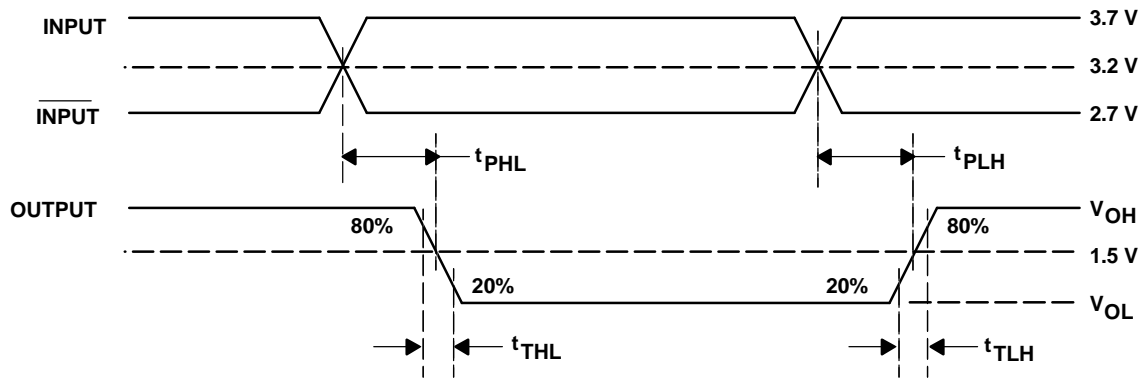

Figure 4. Receiver Propagation Delay Times
| $t_{PLH}$             | Propagation delay time, low-to-high-level output            | $C_L = 0 \text{ pF}^{(1)}$ , See Figure 4 and Figure 8  |     | 2.5 | 4   | ns   |
| $t_{PLH}$             | Propagation delay time, low-to-high-level output            | $C_L = 15 \text{ pF}$ , See Figure 4 and Figure 8   |     | 3   | 5.5 | ns   |
| $t_{skew1}$           | Pulse width distortion, $ t_{PHL} - t_{PLH} $               | Load capacitance ( $C_L$ ) = 10 pF, See Figure 4 and Figure 8                                       |     |     | 0.7 | ns   |
|                       |   | Load capacitance ( $C_L$ ) = 150 pF, See Figure 4 and Figure 8                                      |     |     | 4   | ns   |
| $\Delta t_{skew1p-p}$ | Part-to-part output waveform skew (2)            | $C_L = 10 \text{ pF}$ , $T_A = 75^\circ\text{C}$ , See Figure 4 and Figure 8                        |     | 0.8 | 1.4 | ns   |
|                       |   | $C_L = 10 \text{ pF}$ , $T_A = -40^\circ\text{C}$ to $85^\circ\text{C}$ , See Figure 4 and Figure 8 |     |     | 1.5 | ns   |
| $\Delta t_{skew}$     | Same part output waveform skew (2)               | $C_L = 10 \text{ pF}$ , See Figure 4 and Figure 8   |     |     | 0.3 | ns   |